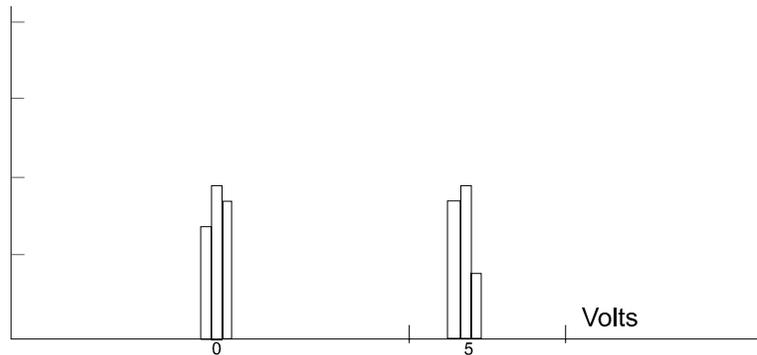

Figure 15-2.
**Example:** In Figure 15-2, a histogram of the voltage value of a five-volt amplitude square wave is centered around two peak value bins: 0 V and 5 V. The adjacent bins signify variation due to noise. The graph of the centered bins shows both as peaks.